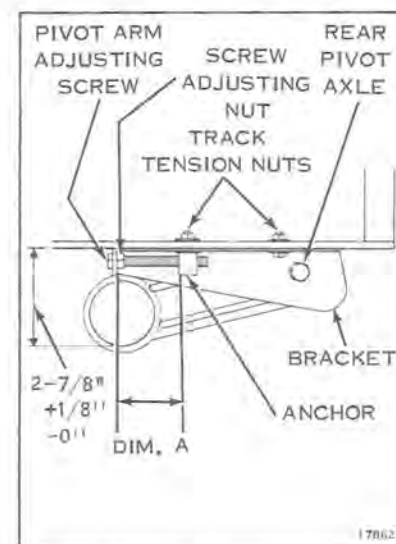

Figure 11-4
Track tension is correct if the distance from the bottom of the pivot arm bearing bore to the bottom of the adjusting bracket is  $2\frac{7}{8}'' + \frac{1}{8}'' - 0''$ . See Figure 11-4.
- Turn pivot arm adjusting screws to obtain the correct track tension as shown in Figure 11-4. Measure distance from bracket to anchor on each side, Figure 11-4, dimension A. If measurements are not equal, loosen adjustment on the side with longest dimension until measurement is equal within  $\frac{1}{32}''$ . This is done by turning the pivot arm adjusting screw counterclockwise. Tighten all retaining nuts.
- b. Loosen track tension nuts. See Figure 11-4.